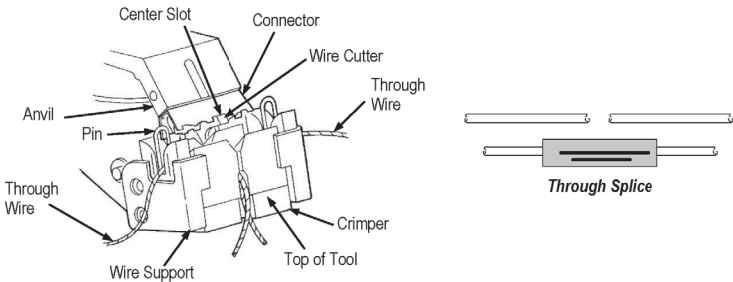

Figure 3
5.1. Through Connections (See Figure 3)
3. Check for a metal leg protruding from the center of the connector. This is caused by improper location of the connector in the tool. If you find any, replace the connections. Be especially careful to insert the connector in the tool so that the slot in the connector engages the wire cutter, and that the notch in the wire cutter does NOT interfere with the connector. See Figures 3, 4, and 5.